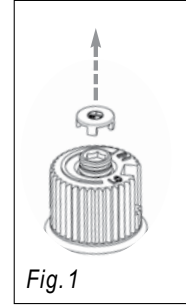

Fig.1
- 14) From the valve remove the black protection cap by hand from the high-low knob (Fig.1).